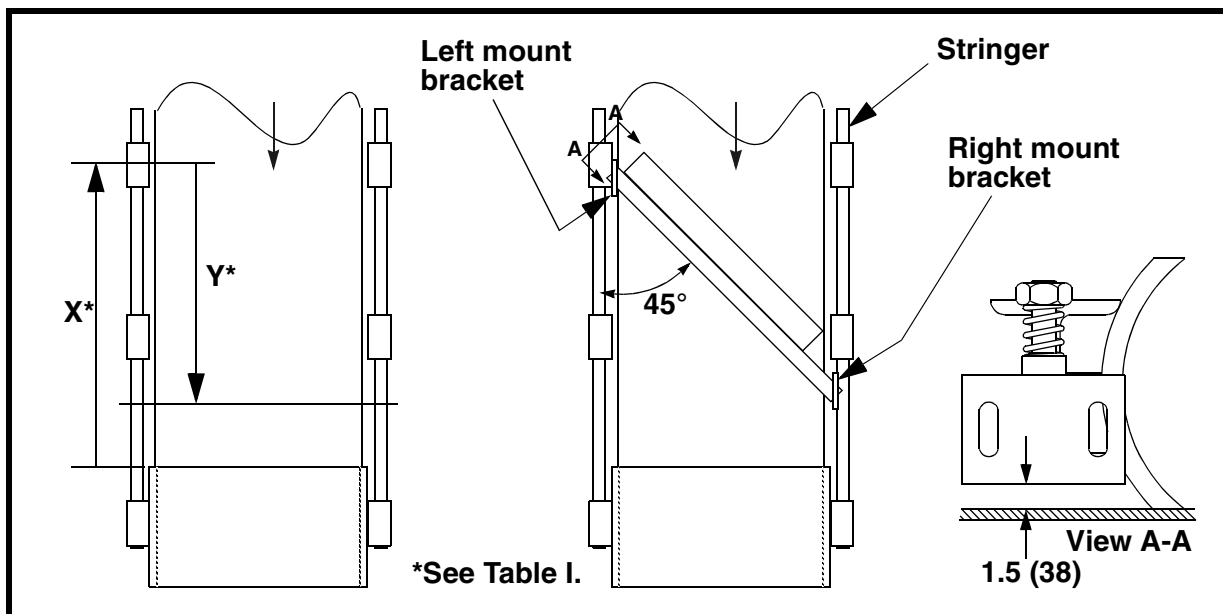

Figure 2. Locating Mount Brackets on Stringers
- a. See Figure 2. Starting from face of tail pulley, measure distance shown under “Locate Left Bracket” in Table I, and mark location on stringer on left side of belt.
- a. See Figure 2. Starting from left side mounting hole marks, measure toward tail pulley distance shown under “Locate Right Bracket” in Table I. Mark location on left side stringer.
*Minimum distance from face of tail pulley (see Figure 2). **Distance from left mounting bracket toward tail pulley (see Figure 2).
- a. If bolting, drill or cut two 11/16-in. holes in each stringer where marked. Remove burrs and sharp edges. Apply thread sealing compound to four jam nuts (B). Install each mount bracket with two hex head cap screws (C), four flat washers (D), and two jam nuts.